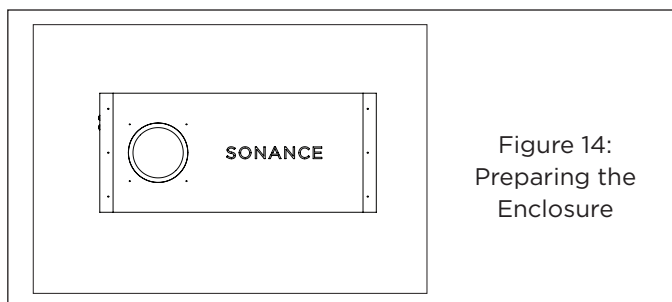

Figure 14:
1. For precise flush alignment with drywall, it can be helpful to place the enclosure on a table with the ceiling materials nearby so that the appropriate spacer thickness can be selected prior to enclosure installation (see Figure 14).